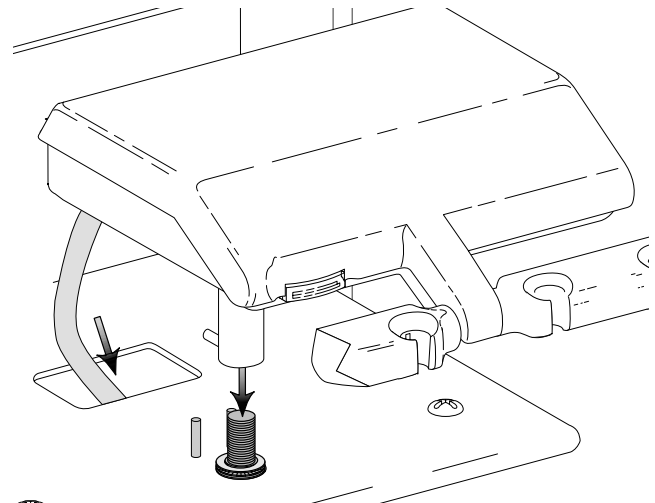

FIGURE 5
8. Route the umbilical down through the umbilical hole in the mounting platform (see Figure 5).